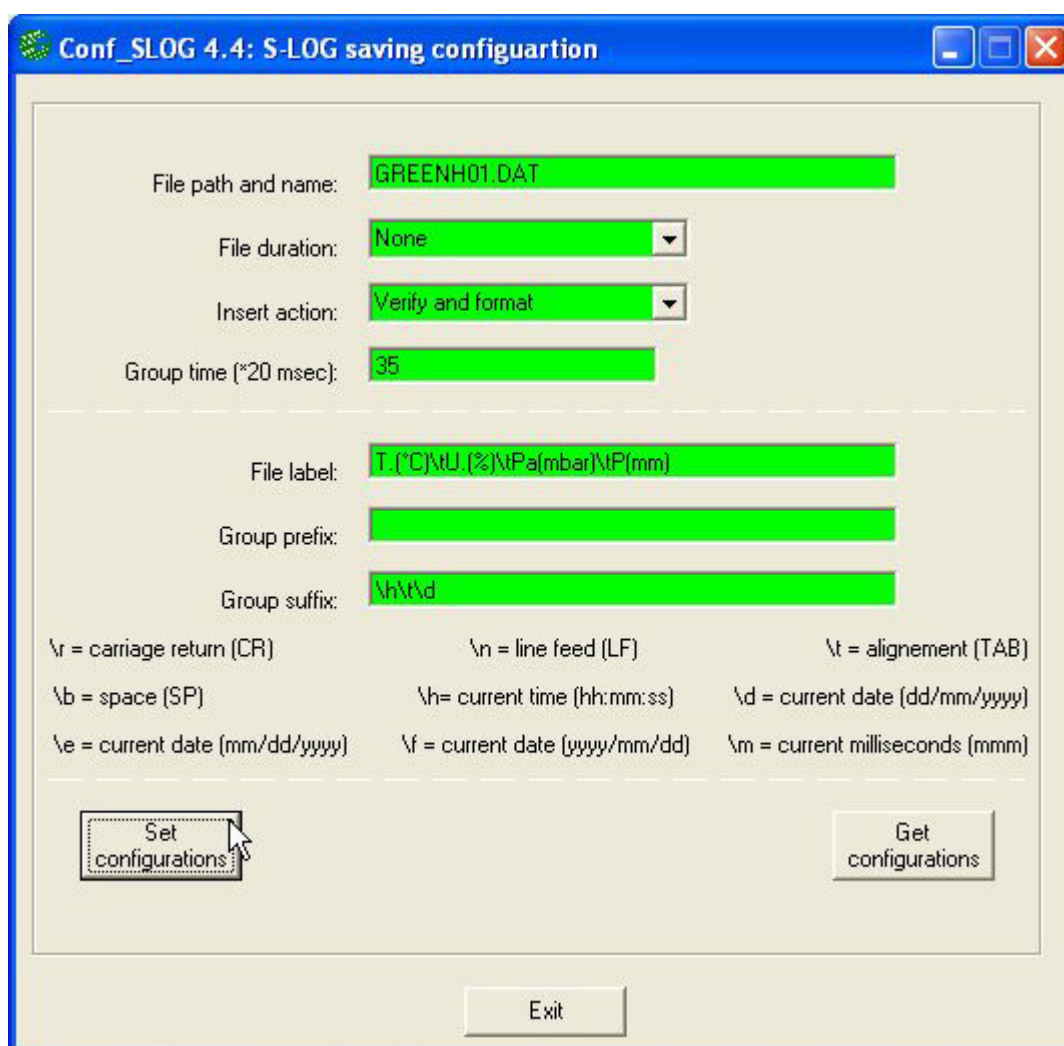

FIGURE 13: SAVING CONFIGURATION WITH CONF_SLOG
- 17) Define the parameters for saving that the **S-LOG** will perform on memory card, through *Configure / Saving* option. Once all the values reported in figure 13 have been inserted, press the *Set configuration* button, then wait the end of configuration (finished after tens of seconds) and verify that no errors are found (all parameters on green background).